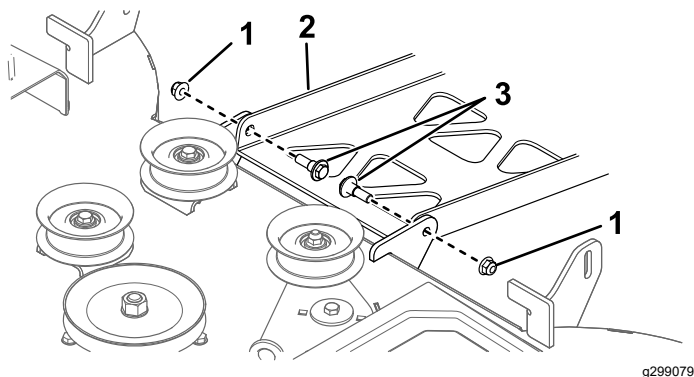

Figure 60
4. At the rear of the mower deck, remove the 2 shoulder bolts and nuts securing the deck to the pivot pan (Figure 60).
9. Secure the rear of the deck to the pivot pan using the shoulder bolts and nuts removed previously (Figure 60).